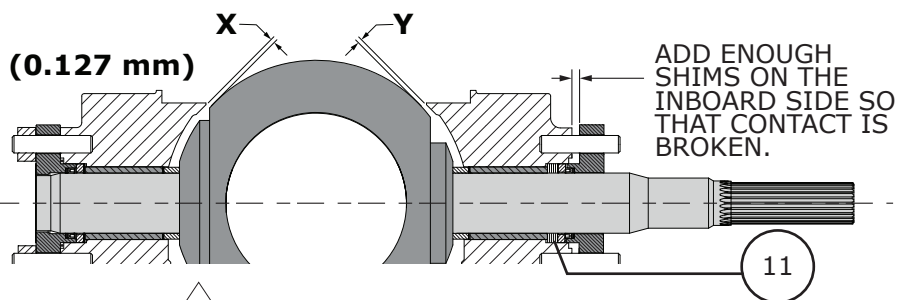
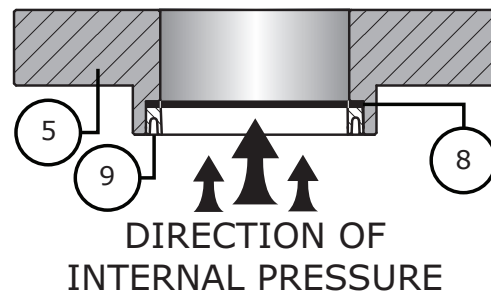

Figure 34 Ball to Body Centering Tolerance Diagram (Step 3 & 11)
Figure 37 Seal Ring Orientation Diagram
- B** Install the backup ring (Key 8) and seal ring (Key 9) into the seal carrier (Key 6) (Refer to Figure 37 for seal ring orientation).
3 Push the drive shaft (Key 17) towards the follower shaft (Key 21) in an attempt to center the valve ball (Key 2). Using a feeler gauge, measure the gap between the valve body (Key 1) and valve ball (Key 2) on both the inboard and outboard sides. The gap between the valve ball and valve body should be even on both sides, the maximum deviation of the gap should be no more than 0.005 inches (0.127 mm). Refer to Figure 34.
5 Remove the nuts (Key 3), packing box (Key 49) or seal carrier assembly (Keys 6, 8, & 9) and spacer (Key 10). Using a mechanics pick set, add or remove shims as necessary to center the valve ball (Key 2) as shown in Figure 34.
- 11 Install 6 shims (Key 11) in to the inboard (drive) shaft bore of the valve body (Key 1). Install the inboard packing box (Key 49). **NOTE:** There should be enough shims in place to cause contact between the packing box and valve body to be broken by about 1 shim of space (refer to Figures 34 & 36). If there is contact between the valve body and packing box, install more shims.
- 12 Install and tighten the nuts (Key 3) or cap screws (Key 40), DO NOT TORQUE the them into place. The valve shaft and ball should no longer be able to rotate freely once the nuts are tightened. Refer to Figures 34 & 36.
- 2 Apply Lubriplate® No. 105 Grease (Key C) to the backup ring (Key 8) and seal ring (Key 9), then re-install them into the seal carrier (Key 6) as shown in Figure 37.
- 5 Install 6 shims (Key 11) in to the inboard (drive) shaft bore of the valve body (Key 1). Temporarily install the spacer (Key 10). Install the backup ring (Key 8) and seal ring (Key 9) into the seal carrier (Key 5) (refer to Figure 37 for seal ring orientation). Install the seal carrier assembly (Keys 5, 8, 9). **NOTE:** There should be enough shims in place to cause contact between the seal carrier and valve body to be broken by about 1 shim of space (refer to Figure 34). If there is contact between the valve body and seal carrier, install more shims.
- 9 Separate the seal carrier assembly by removing the backup ring (Key 8) and seal ring (Key 9) from the seal carrier (Key 5). Apply Lubriplate® No. 105 Grease (Key C) to both the backup ring and seal ring and then re-install them into the seal carrier as shown in Figures 37 & 38.